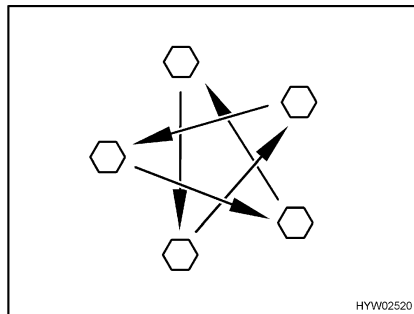

Fig. 221 Tighten the wheel nuts or wheel bolts cross-wise
- Check regularly that the wheel nuts or wheel bolts are firmly seated. Re-tighten the wheel nuts or wheel bolts of a changed wheel after 50 km (30 miles) (Fig. 221).
- When using new or newly painted rims, re-tighten the wheel nuts or wheel bolts once again after approx. 1,000 to 5,000 km (600 miles to 3,000 miles) (Fig. 221).
- ▷ Tighten the wheel nuts or wheel bolts cross-wise (Fig. 221).